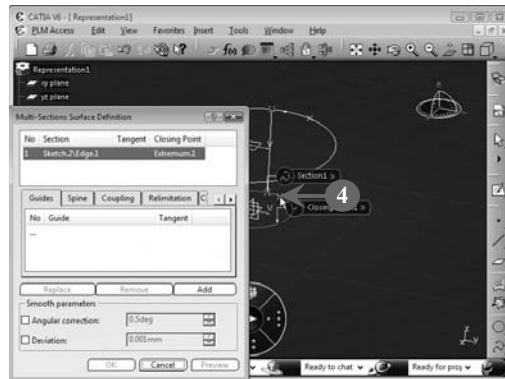

FIGURE 5.109
4. *Select* another point on the first section curve, as shown in **Figure 5.109**: